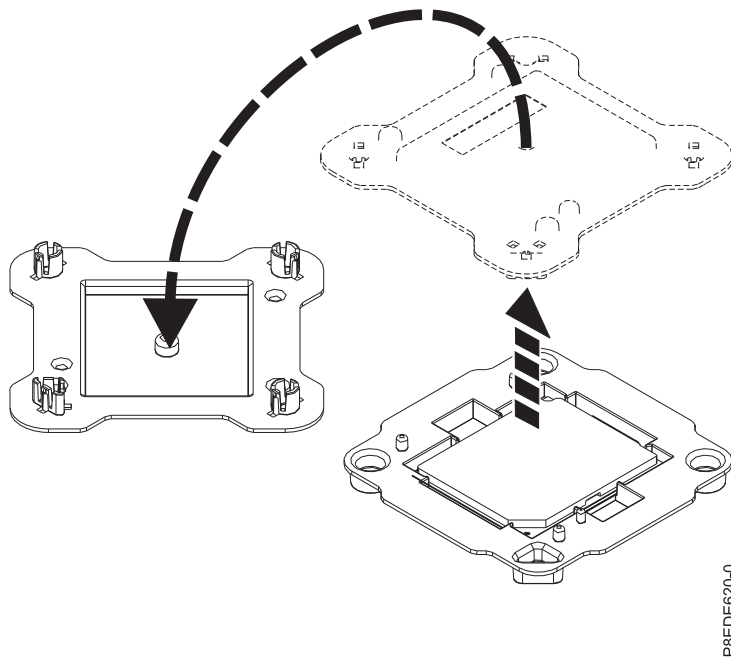

Figure 4. Opening the system processor module packaging
5. Open the packaging of the new system processor module and place the cover upside down next to the tray, as shown in Figure 4 on page 7. The cover is used for the system processor module that you